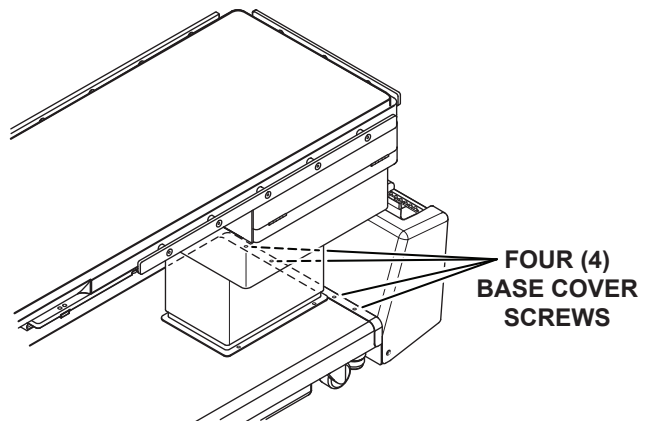
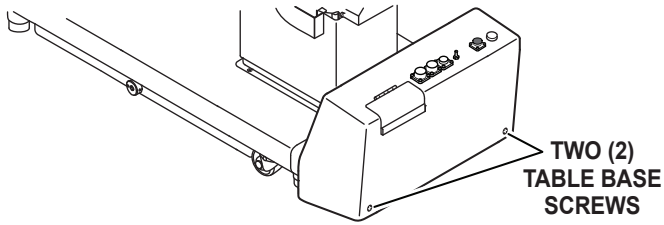

Figure 37. Back Pack Cover Screws
Figure 38. Back Pack Cover Screws
2. Remove the six screws holding the back pack cover to the base (Figure 37) and (Figure 38).